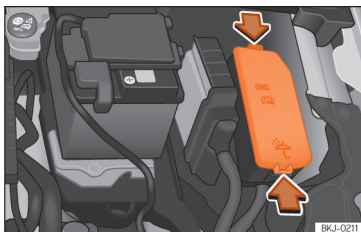

Fig. 168 In the engine compartment: lid of the fuse box.
- Press the locking tabs to unlock the fuse box cover >>> Fig. 168.